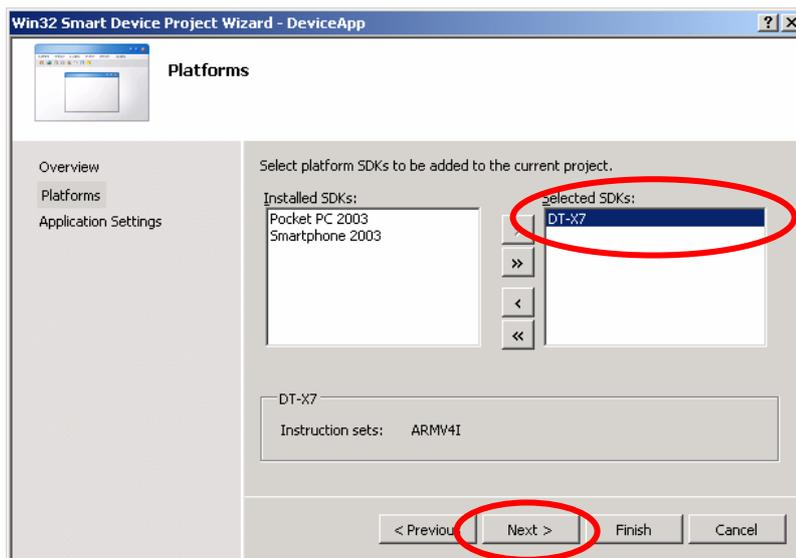

Figure 9.5
4. Click **Next >** button while **DT-X7** is kept being highlighted in the Slected SDKs (or Selected SDKs in Figure 9.5) field.